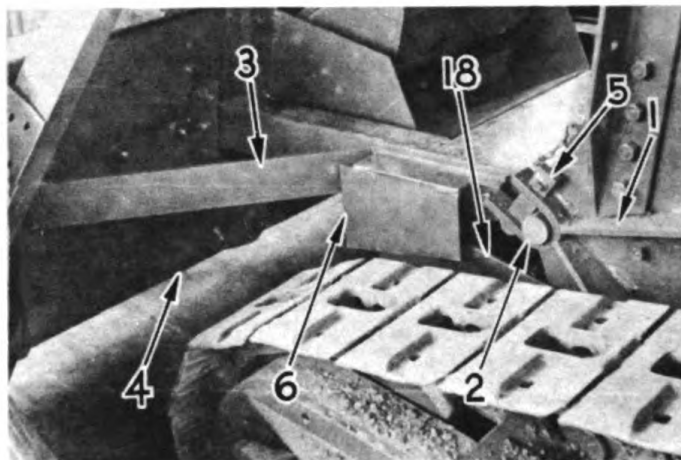

Figure 76. Showing push arms attached.
The push arm transmits thrust from the chassis substructure (1) Figure 76 to the feeding end of the elevator.